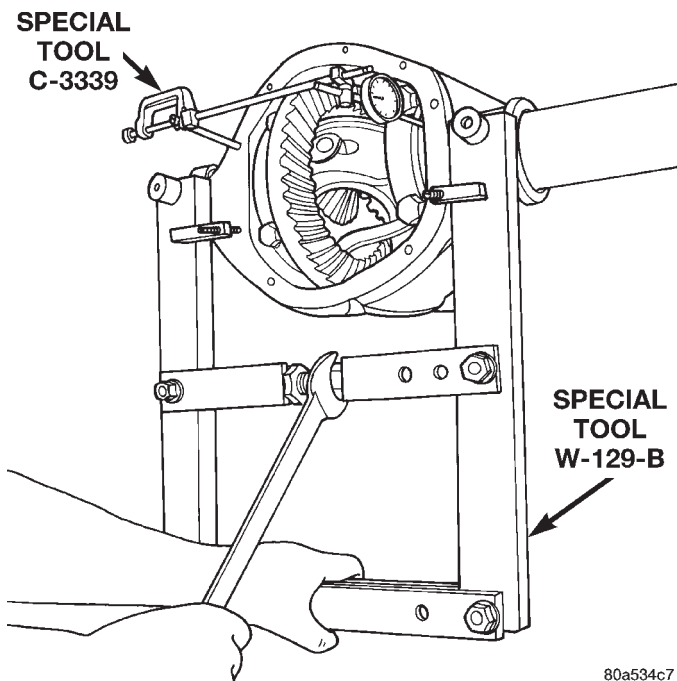

Fig. 26 Spread Axle Housing
(9) Spread the housing enough to remove the differential case from the housing. Measure the distance with the dial indicator (Fig. 26).
(3) Spread the housing enough to install the case in the housing. Measure the distance with the dial indicator (Fig. 26).
(4) Remove the dial indicator.
(5) Install differential case in the housing. Ensure that the differential bearing cups remain in position on the differential bearings and that the pick-up opening of the Vari-lok[™] plenum is at the bottom of